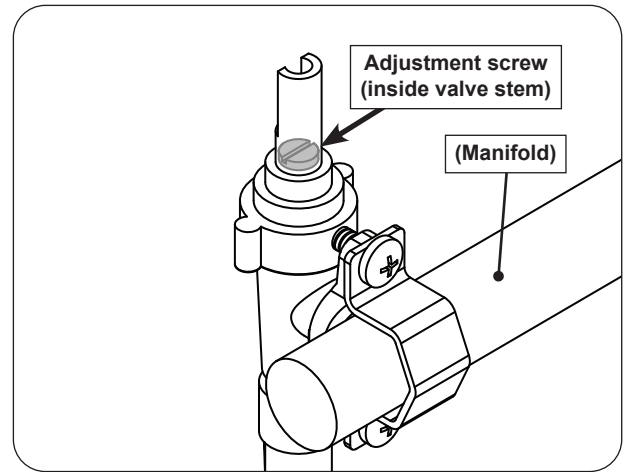

Fig. 42-1 Valve adjustment screw location
4. Locate the FLATHEAD adjustment screw found inside the valve stem (see Fig. 42-1).